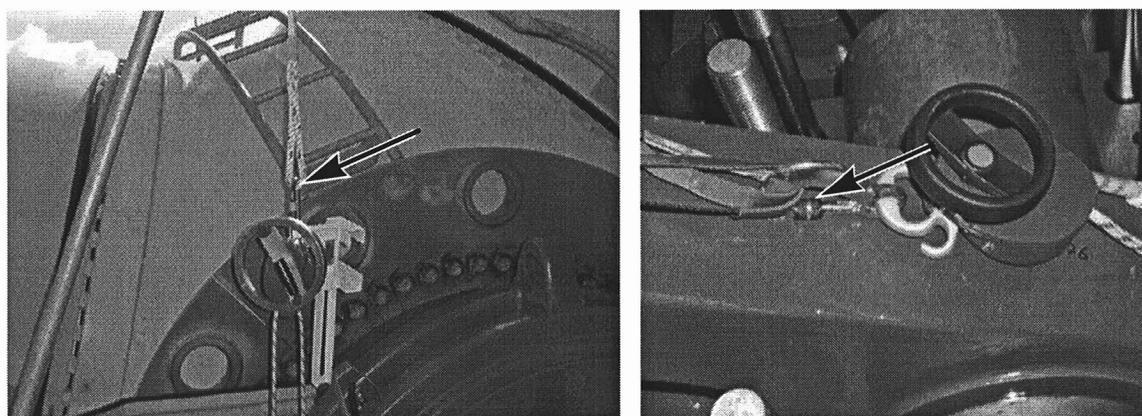

Fig. 29 Descender K08 beta on work-positioning lanyard and webbing sling with knurled nut (arrow)
- Attach the hook of the descender to the work-positioning lanyard or webbing sling, see Fig.29